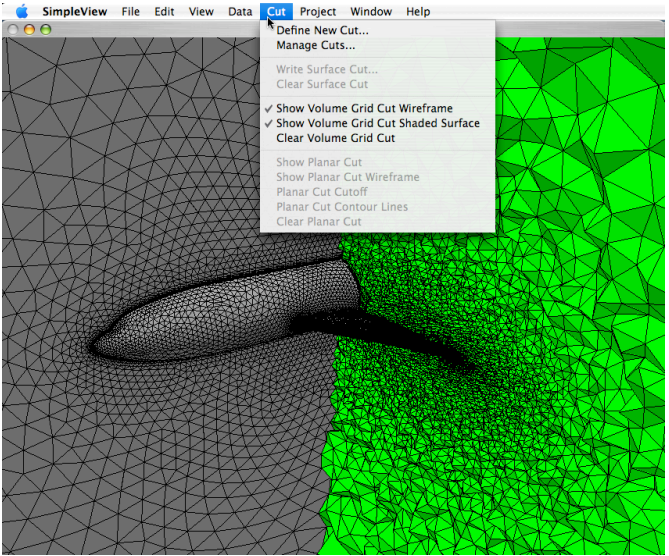

Figure 2.5.4 Displaying cuts through the volume : shaded and wireframe views activated simultaneously (default)
5. Click on “OK.” You’ll notice that the transparent blue plane disappears, and in its place, a display of all the cells crossing that plane appears; by default, the cells are shown with both the wireframe and face-shading enabled, as illustrated in Figure 2.5.4.